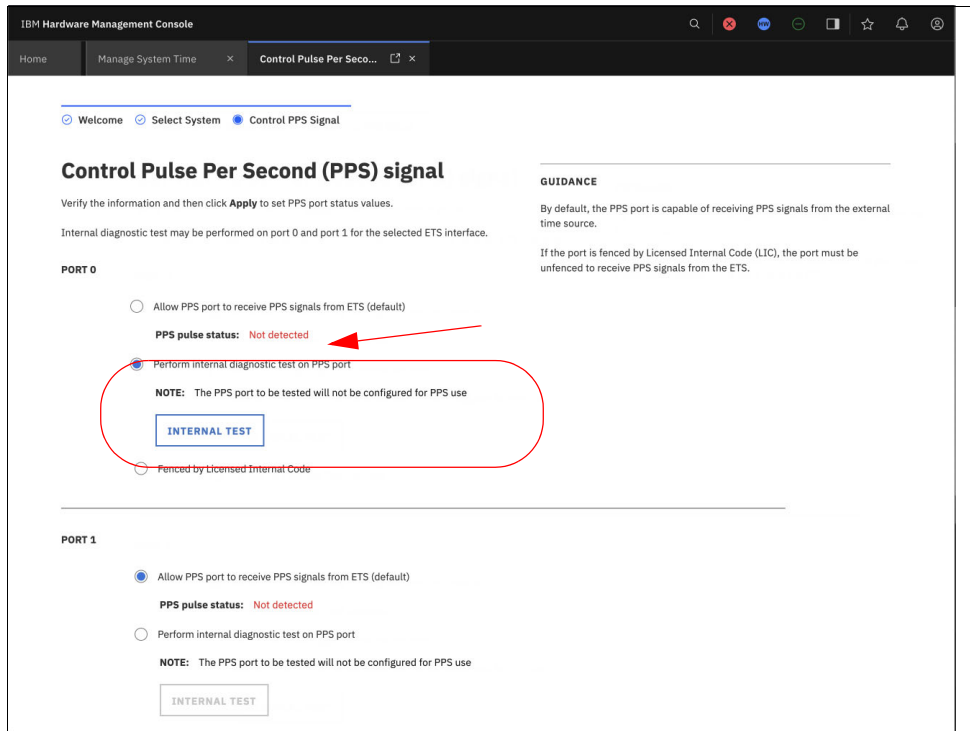

Figure 4-62 Select internal diagnostic test
4. If a port has a PPS port shows that a PPS port is not connected PPS, you can run a diagnostics test by selecting the button **Perform internal diagnostic test**, as shown in Figure 4-62.